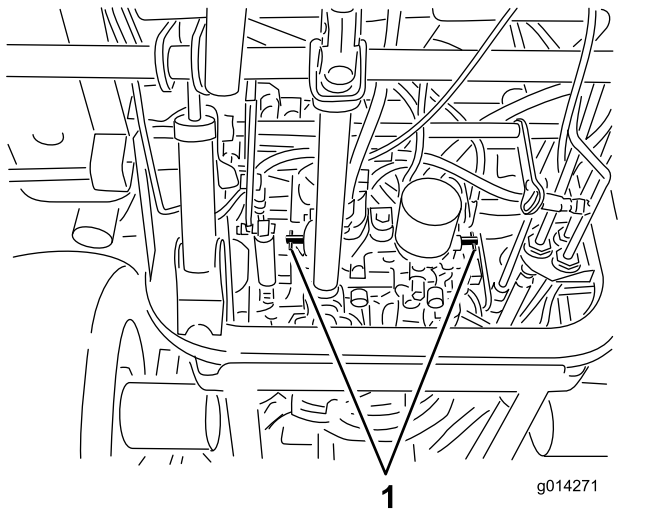

Figure 25
3. Rotate each bypass valve counterclockwise 1 turn (Figure 25).
1. Rotate each bypass valve clockwise 1 turn and hand tighten them (Figure 25).
2. Torque the valves approximately 8 N·m (71 in-lb) as shown in Figure 25.